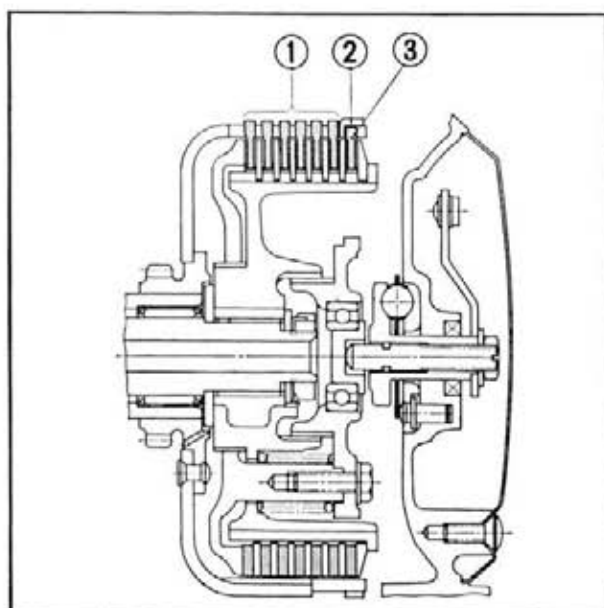

Fig. 4-5 ① Clutch friction disc A
② Box wrench
4. Remove the clutch friction disc B and clutch outer ring from the clutch outer and then remove the friction discs A and clutch plates. (Fig. 4-5)